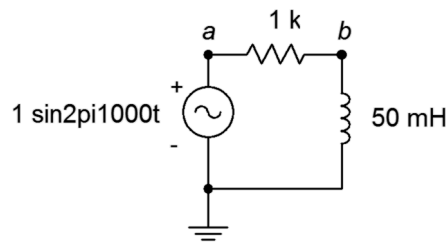

Figure 2.12
20. Determine the impedance of the circuit of Figure 2.12.
21. Determine the impedance of the circuit of Figure 2.12 using a frequency of 10 kHz.
22. For the circuit of Figure 2.12, determine the circulating current and the voltages across each component. Also find the time delay between the voltages of the components.
23. For the circuit of Figure 2.12 with a frequency of 3 kHz, determine the circulating current and the voltages across each component. Also find the time delay between the voltages of the components.
59. Redesign the circuit of Figure 2.12 using a new frequency such that the current magnitude from the source is $200\ \mu\text{A}$.
61. For the circuit of Figure 2.12, determine a new frequency such that $|X_L| = R$.